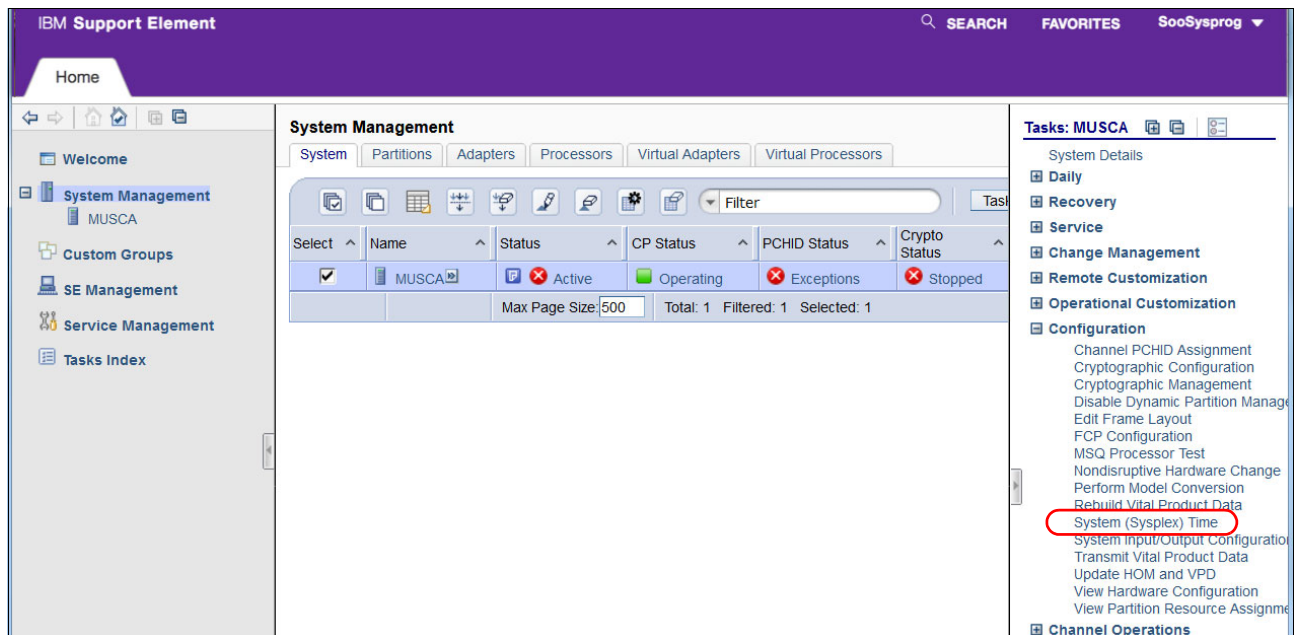

Figure 16-5 Accessing System (Sysplex) Time menus from the SE
1. From the HMC interface, with a user that includes System Programmer (Sysprog) authority, we selected our CPC. Then, clicked **Recovery** → **Single Object Operations** (SOO). In the SOO interface, we select the CPC and then, click the **System (Sysplex) Time** task (see Figure 16-5).